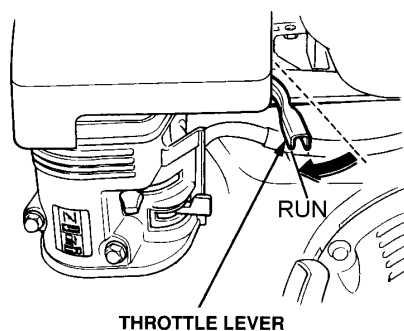

Figure 19. Throttle Lever (Run)
- To begin mixing, place the throttle lever (Figure 19) in the **"RUN"** position.